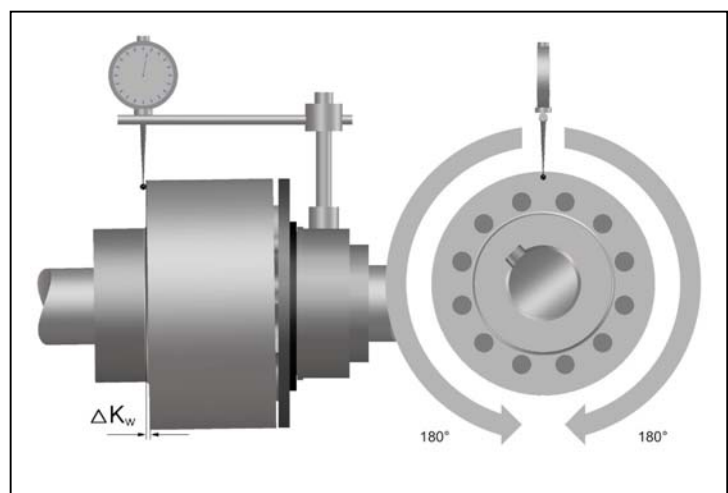

Fig. 6
- Measure one complete revolution (360°) on the face of the outer diameter. Determine the largest deviation K_{w1} and the smallest deviation K_{w2} (Fig. 6). Calculate the angular misalignment: